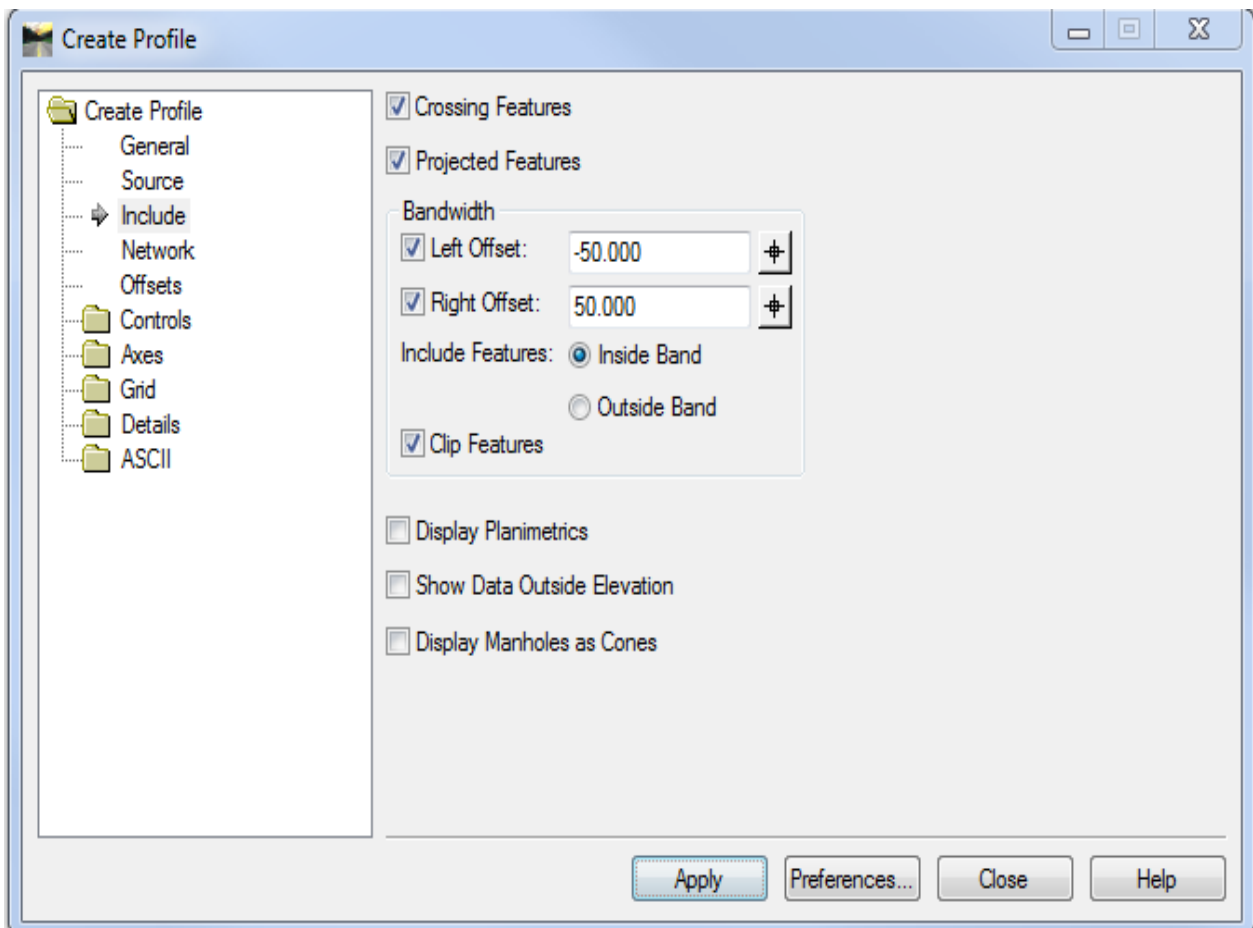

Figure 5-1 InRoads Create Profile Dialog Box
- A. Go to **Evaluation > Profile > Create Profile** (Figure 5-1 will appear).
- G. In MicroStation, rotate the view to TOP, and then fit the view. Click the **Apply** button in the Create Profile box Figure 5-1 and datapoint to a blank area in the MicroStation View. This will place a profile window.